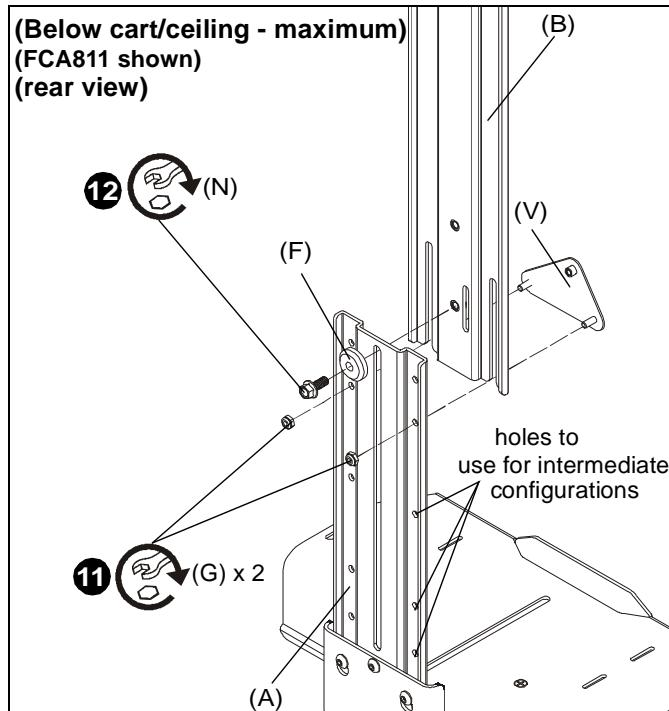

Figure 12
11. (For maximum/intermediate extension) Use two #10-24 lock nuts (G) to secure upright bracket (A) to main bracket (B) and adapter plate (V). (See Figure 12)
12. (For maximum/intermediate extension) Use 1/4-20 x 5/8" hex head flange bolt (N) and center washer (F) to secure upright bracket (A) to main bracket (B). (See Figure 12)